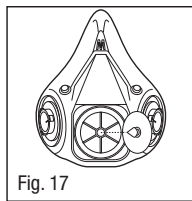

Fig. 17
2. Grasp valve and pull valve stem out from valve seat (Fig.17).